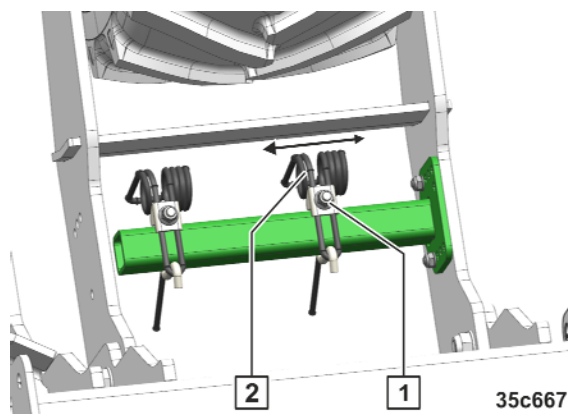

Fig. 201
1. Loosen the nut (Fig. 201/1).
2. Move the harrow arm (Fig. 201/2) to the desired position.